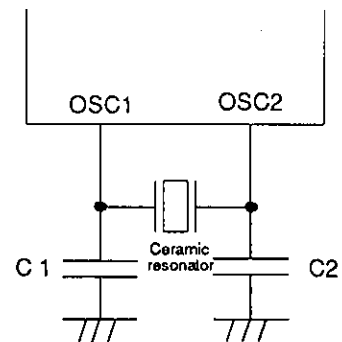

Fig. 3 Ceramic Resonator Oscillation Circuit
| Ceramic resonator OSC               |              | Fig.3   |                                       |                            |            | Table 1                        |  |
|   | IDDOP(3)    | Fig.3 4MHz, 1/3 predividerVDD=4 to 6V   | VDD  |                           | 1.2                        | 3                          | mA                       |
|   | IDDOP(4)    | Fig.3 4MHz, 1/4 predividerVDD=4 to 6V   | VDD  |                           | 1.2                        | 2.5                        | mA                       |
|   | IDDOP(5)    | Fig.3 400kHz  | VDD  |                           | 0.5                        | 2                          | mA                       |
| External clock                                    | IDDOP(6)    | Fig.3 800kHz VDD=4 to 6V  | VDD  |                           | 1.0                        | 2.5                        | mA                       |
| Oscillation characteristics Ceramic OSC Frequency | fCFOSC (*5) | Fig.3 fo=400kHzFig.3 fo=800kHz, VDD=4 to 6VFig.3 fo=1MHz VDD=4 to 6VFig.3 fo=4MHz, 1/3 predivider1/4 predivider VDD=4 to 6V | OSC1, OSC2OSC1, OSC2OSC1, OSC2OSC1, OSC2 | 3847689603840 | 40080010004000 | 41683210404160 | kHzkHzkHzkHz |
- (\*1) When oscillated internally under the oscillating conditions in Fig.3, up to the oscillation amplitude generated is allowable.